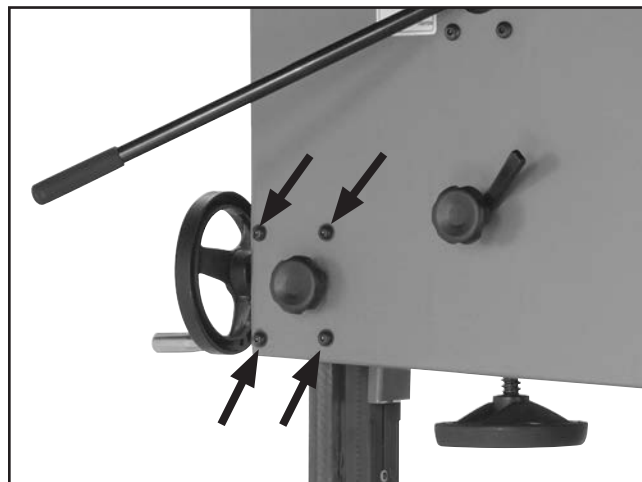
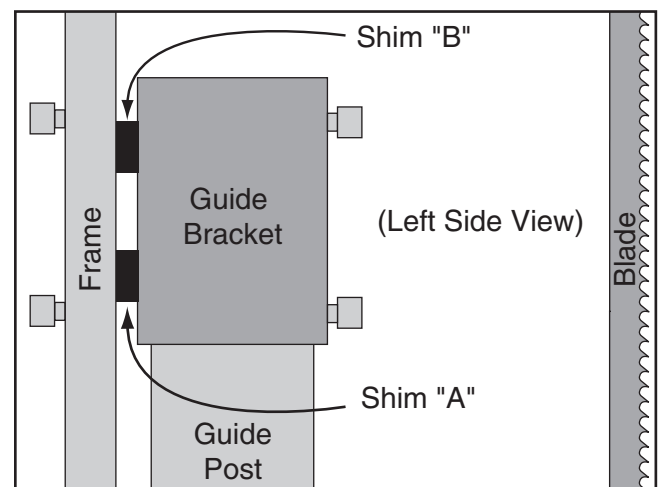

Figure 101. Guide post adjustment screws.
Figure 103. Location for placing shims.
4. Loosen each of the four screws shown in **Figure 101** ¼ turn.
6. Tighten the screws shown in **Figure 101**.
7. Loosen the four screws shown in **Figure 101** on the previous page enough to fit metal shims between the frame and the guide post bracket (see **Figure 103**).
8. Tighten the four screws shown in **Figure 101** on the previous page, then repeat **Steps 4–5**.